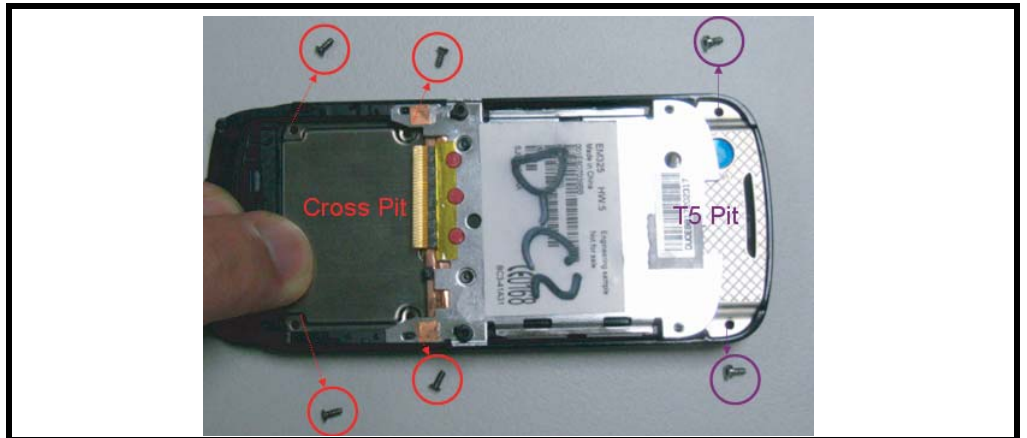

Figure 19. Unscrew the 6 screws
3. Unscrew the 4 cross screws and 2 T5 screws as Figure 19.